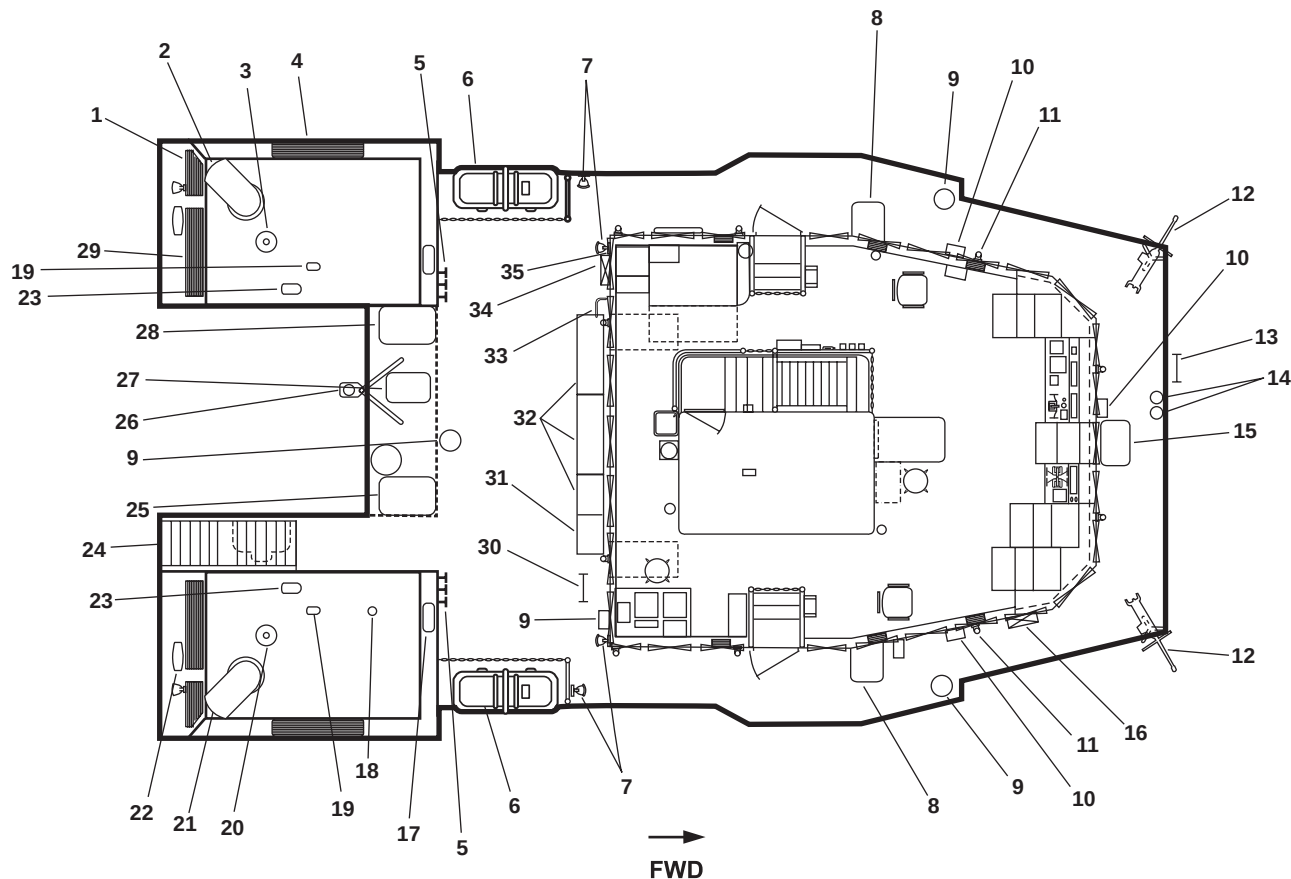

Figure 1. 02 Level Exterior
41. Ammunition locker (figure 1, item 41). The ammunition locker provides storage for the .50 cal. machine gun ammunition.
42. Aft auxiliary control station (figure 1, item 42). The aft auxiliary control station provides speed and directional control for the main propulsion system and steering control for the rudders.
43. Towing machine control station (figure 1, item 43). The towing machine control station provides controls for the port and starboard towing machine and tow pins.
44. Soft patch (figure 1, item 44). The soft patch is a watertight bolted panel that can be removed to allow large machinery removal.
45. Work boat (figure 1, item 45). The work boat is a seven-person, 13 ft (3.9 m) long, rigid bottom, inflatable boat. The workboat is equipped with a console steering unit and a 40 hp (29.8 kW) outboard motor.
1. Main engine combustion air intake (figure 1, item 1). The main engine combustion air intake provides fresh air to the main engine's combustion system.
2. Port main engine exhaust (figure 1, item 2). This exhaust discharges the port main engine's exhaust to weather.
3. Medium Frequency (MF), High Frequency (HF), Global Maritime Distress Safety System (GMDSS) whip antenna, model, 5300 (figure 1, item 3). This antenna is coupled to the MF/HF transceiver for the GMDSS. Refer to TM 55-5821-311-10 for details.
4. Engine room vent air exhaust (figure 1, item 4). The engine room vent air exhaust provides exhaust for the engine room.
5. Engine room ventilation damper handles (figure 1, item 5). These three ventilation damper handles OPEN and CLOSE the main engine intake, the engine room ventilation intake, and the engine room exhaust vent.
6. Life raft (figure 1, item 6). The inflatable life raft provides holding capacity for 25 crewmembers.
7. Flood light (port and starboard) (figure 1, item 7). The flood light provides illumination for night towing operations.
8. Bridge wing control station (port and starboard) (figure 1, item 8). The bridge wing control station provides auxiliary control of steering, propulsion engines, and the bow thruster engine.
9. Column bearing repeater stand (figure 1, item 9). The bearing repeater stand is a compass repeater for the gyrocompass system.
10. Sound powered telephone (figure 1, item 10). The sound powered telephone provides communication to various areas of the vessel.